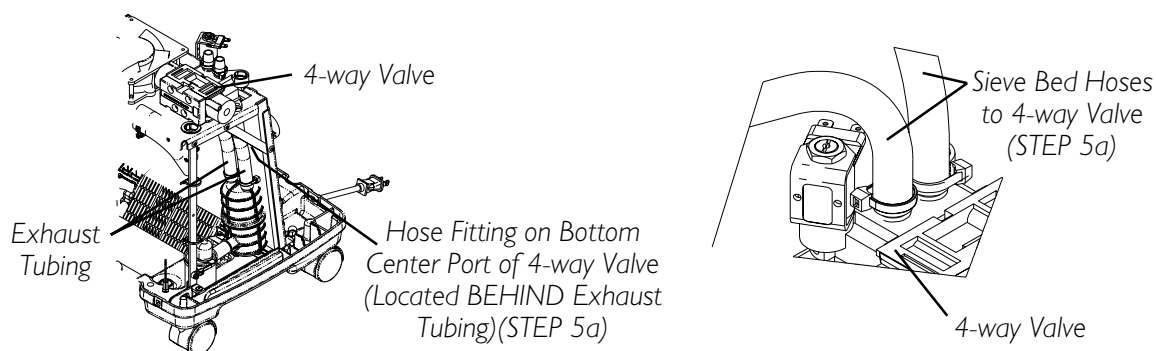

FIGURE 1 - 4-WAY VALVE HOSES
- a) The two (2) sieve bed hoses at the top of 4-way Valve and hose to bottom center port on 4-way Valve. Refer to FIGURE 1.